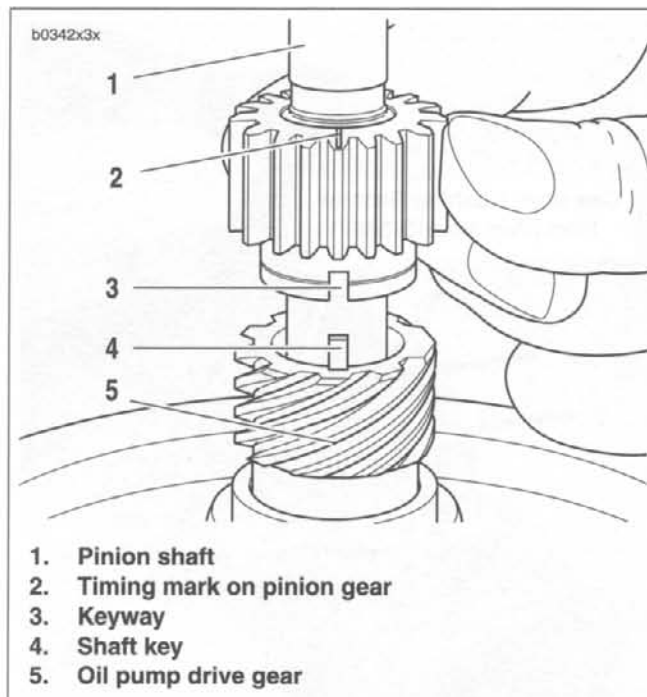

Figure 3-89. Aligning Pinion Gear
1. See Figure 3-89. Install oil pump drive gear (5) and pinion gear on pinion shaft.
- a. Slide oil pump gear drive gear (5) over pinion shaft (1). Drive gear must align with shaft key (4).
- b. Align keyway (3) in ID of pinion gear with shaft key (4).
- c. Slide pinion gear over shaft key (4) and against oil pump drive gear (5).